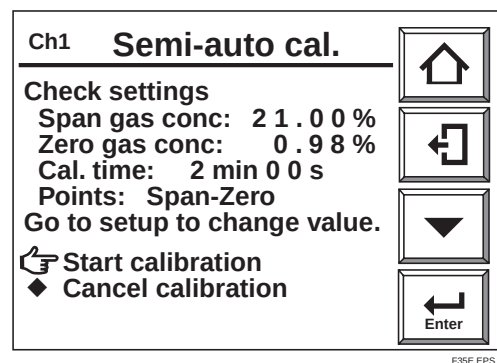

Fig. 9.9 Semi-Auto Calibration Start.
- 3) Select the channel to be calibrated. The [Semi-auto cal.] display, Fig. 9.9, is displayed.